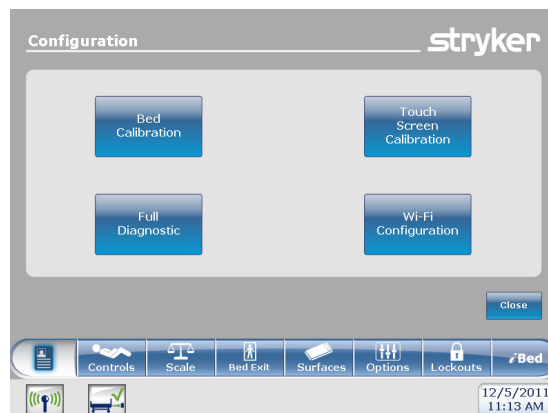

Figure 3: Configuration Screen Menu Items
The following items A, B, and C are configuration buttons available and displayed on the Configuration screen (Figure 3).
1. To start the bed calibration, press the Bed Calibration button on the Configuration Screen (refer to Figure 3).